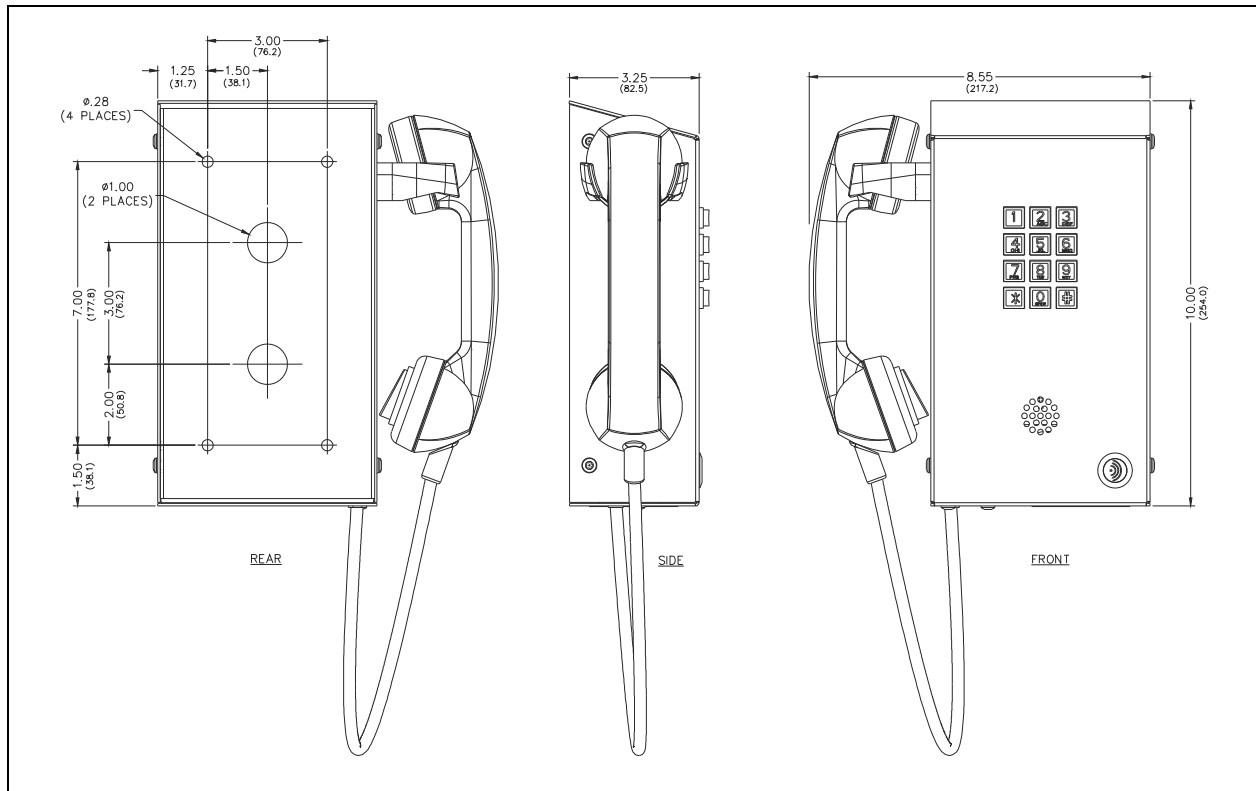

Figure 3. Models 210-700BH/-700BHAC VoIP Behavioral Telephones Outline and Mounting Detail
4. Two 1-inch diameter entry holes are provided on the mounting panel for cable entry (see Figure 3). Pull the Ethernet cable through one of the two holes and install the cable (see the Field Wiring section).